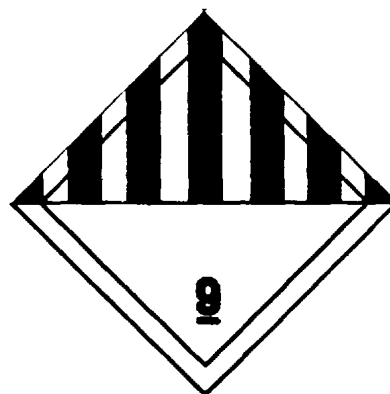

Figure 4-2. Class 9 label
(b) Marking and labeling: Proper shipping name: Lithium battery, ; Hazard Class: 9; UNID: UN3090; Packing Group: II; label in accordance with 49 CFR, Part 172.446: CLASS 9 label; see figure 4-2.
(1) Packaging: All CECOM procured batteries meet the requirements of 49 CFR, Part 173.1850)(1) (*i.e.*, cells contain less than 12.0 grams of Li). They may be shipped for disposal by motor vehicle only. When packaged, batteries **MUST** be protected from external short circuits, and packaged in a strong outer packaging.
(2) Marking and labeling: Proper shipping name: Lithi- um battery; Hazard Class: 9; UNID: UN3090; Packing Group: II; label in accordance with 49 CFR, Part 172.446: CLASS 9 label; see label at Figure 4-2. CDD discharged Li-SO₂ batteries are not regulated under 49 CFR, Part 172.101 HMT, see 49 CFR, Part 173.185 (1).